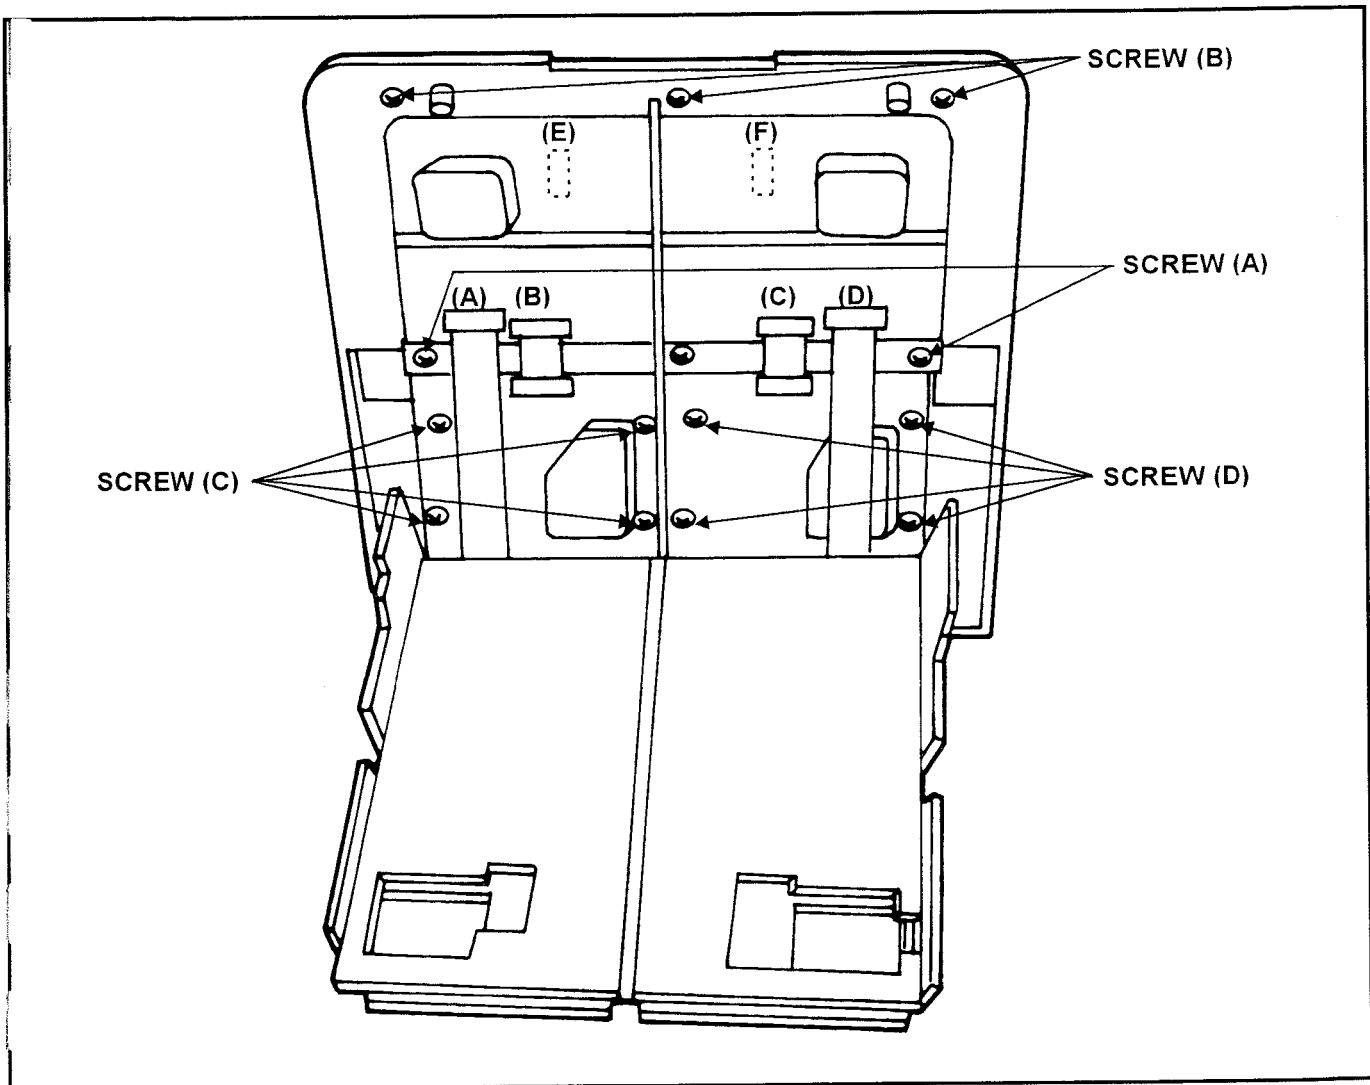
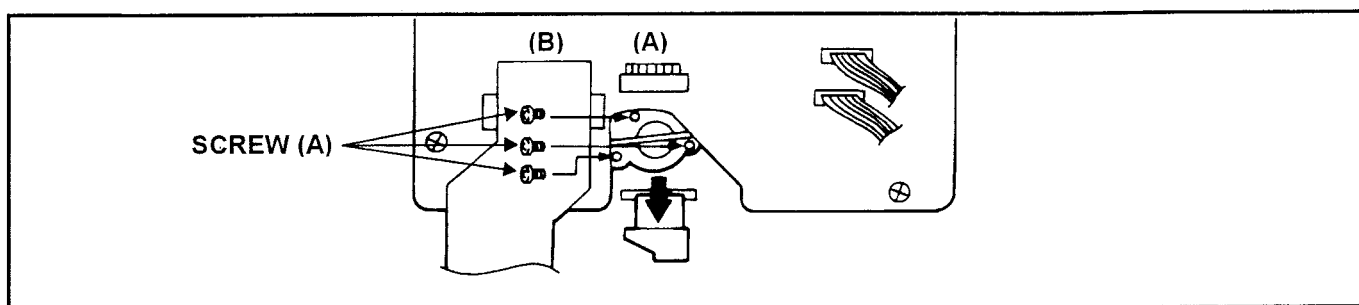

Figure 5
Figure 8
Unscrew the 3 screws (B) and disconnect the connector (A): P61901, (B): P60601, (C): P61301, (D): P61601 on the A/V SYSCON P.C.Board as shown in Figure 5.
Lift up the Key Panel Unit and disconnect the connector (E): P65007, (F): P65008 on the Key board as shown in Figure 5.
5. Unscrew the 3 screws (A) as shown in Figure 5.
4. Disconnect the connector (A): P61901 and (D): P61601 on the A/V SYSCON P.C.Board as shown in Figure 5.
5. Unscrew the 4 screws (C) for VTR 1 and 4 screws (D) for VTR 2, then remove the Shield Plate shown in Figure 5.
6. Disconnect the connector (A): P2033 on the Servo P.C.Board.
7. Unscrew the 3 screws (A), which have spring from the Cylinder unit as shown in Figure 8.
4. Disconnect the connector (A): P61901 for VTR 1 and (D): P61601 for VTR 2 on the A/V SYSCON P.C.Board as shown in Figure 5.
5. Remove the Shield Plate (Refer to item 2-8).
6. Disconnect the connector (B): P2001, (C): P2002 on the Servo P.C.Board as shown in Figure 8.